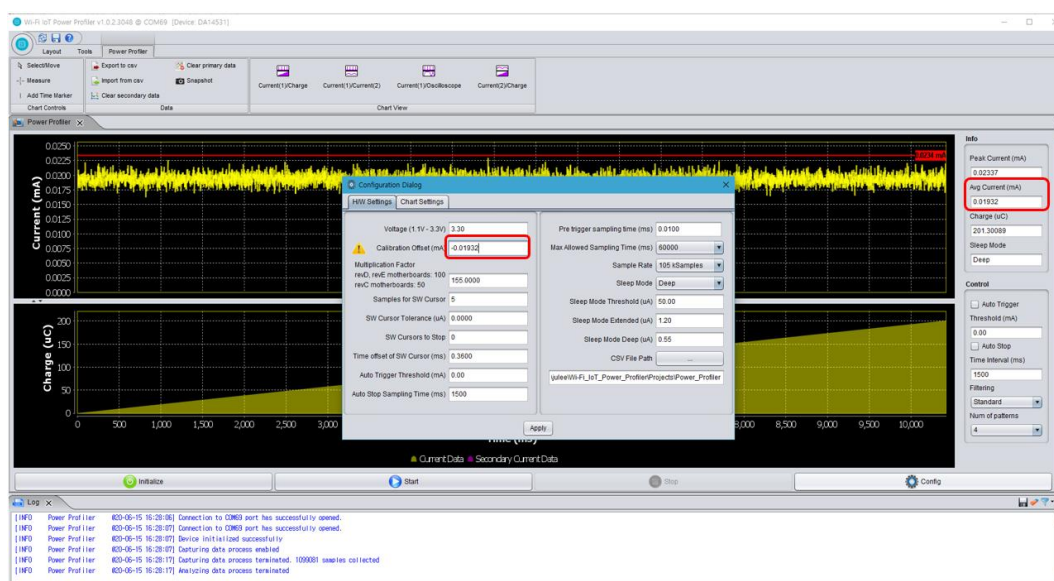

Figure 62: Setting Calibration Offset
3. Run a free running capture for a few seconds and note down the number in the **Avg Current (mA)** field as shown in Figure 62. Note that the last digits of the number keep changing slowly due to temperature drift. It is important to do the calibration steps periodically.
4. Finally, put this average value with a negative sign in the **Calibration Offset (mA)** field. CTRL-C and CTRL-V are also workable as shown in Figure 62.